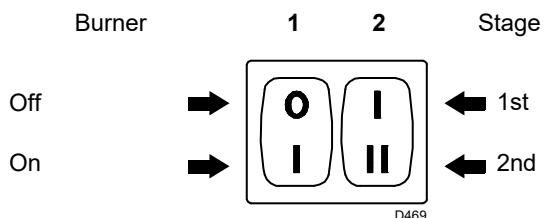
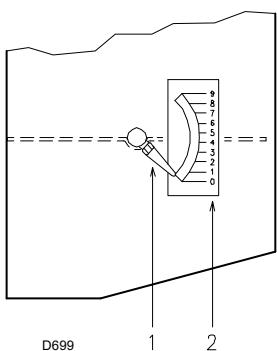
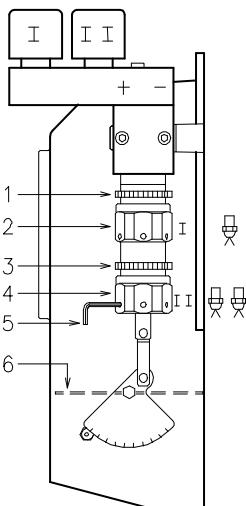

Fig. 22
Fig. 23
Fig. 24
– The pump can be considered to be primed when the light oil starts coming out of the screw 3). Stop the burner: switch 1)(Fig. 22 pag. 19) set to "OFF" and tighten the screw 3).
- Start the burner by closing the control devices and with switch 1)(Fig. 22 pag. 19) in the "ON" position. The pump must rotate in the direction of the arrow marked on the cover.
Set switch 1) (Fig. 22) to "ON".
Keep the burner operating at 1st stage by setting the switch 2) (Fig. 22) to the 1st stage position. Opening of the air gate valve 6) (Fig. 24) must be adjusted in proportion to the selected nozzle: the index 1) (Fig. 23) must be aligned with the notch 2) (Fig. 23) specified in table (Tab. E) This adjustment is achieved by turning the hex element 2) (Fig. 24):
2.3 notch (Fig. 23) aligned with index 1).
When the adjustment is terminated lock the hex element 2) (Fig. 24) with the ring nut 1).
N° = Notch 2)(Fig. 23)
Set switch 2)(Fig. 22 pag. 19) to the 2nd stage position and adjust the air gate valve 6)(Fig. 24) by turning the hex element 4)(Fig. 24), after having loosened the ring nut 3) (Fig. 24).